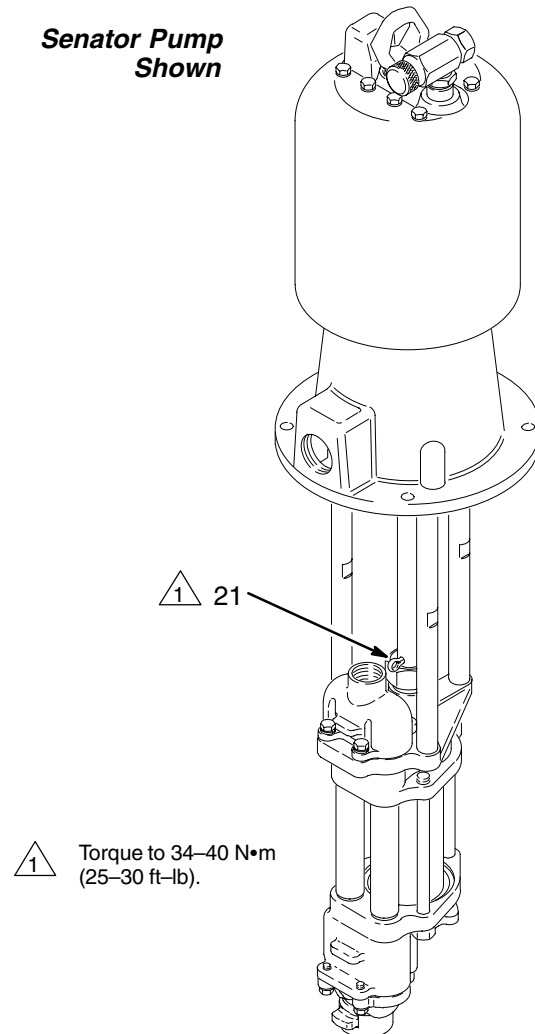

Fig. 6
The packing nut (21) should be tight enough to stop leakage, but no tighter. Overtightening compresses and damages the packings, and may cause the pump to leak, reducing performance. See Fig. 6.